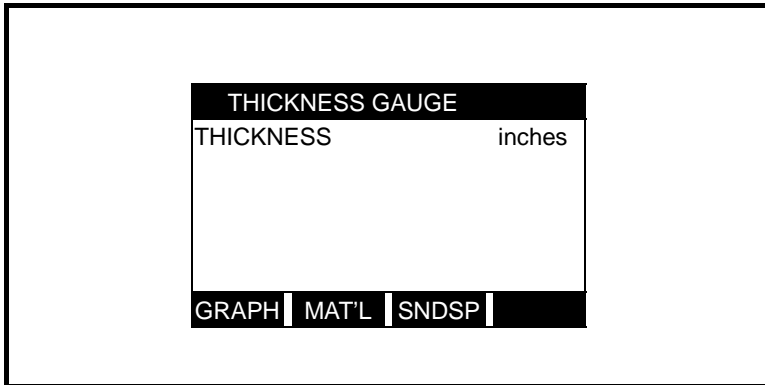

Figure 9-2: Ultrasonic Gauge Thickness Screen
1. Enter the Calibration Menu by pressing the [CAL] key; then press [F3] to select "WALL." A screen similar to Figure 9-2 below should appear.